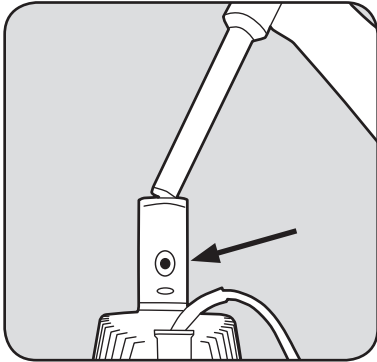

Fig. 1
1. Insert the telescoping wand into top of the main unit. Ensure the button on the wand locks into place. (Fig. 1)